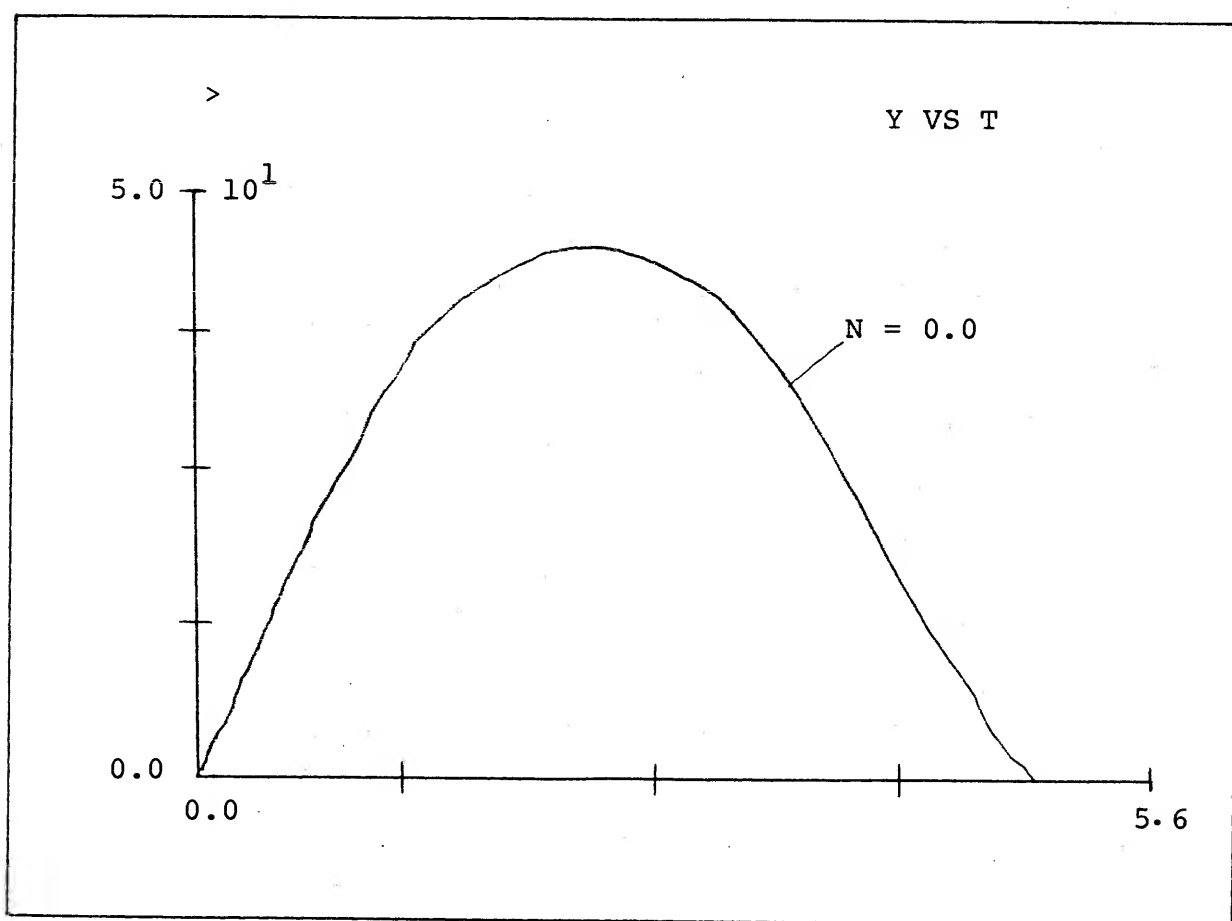
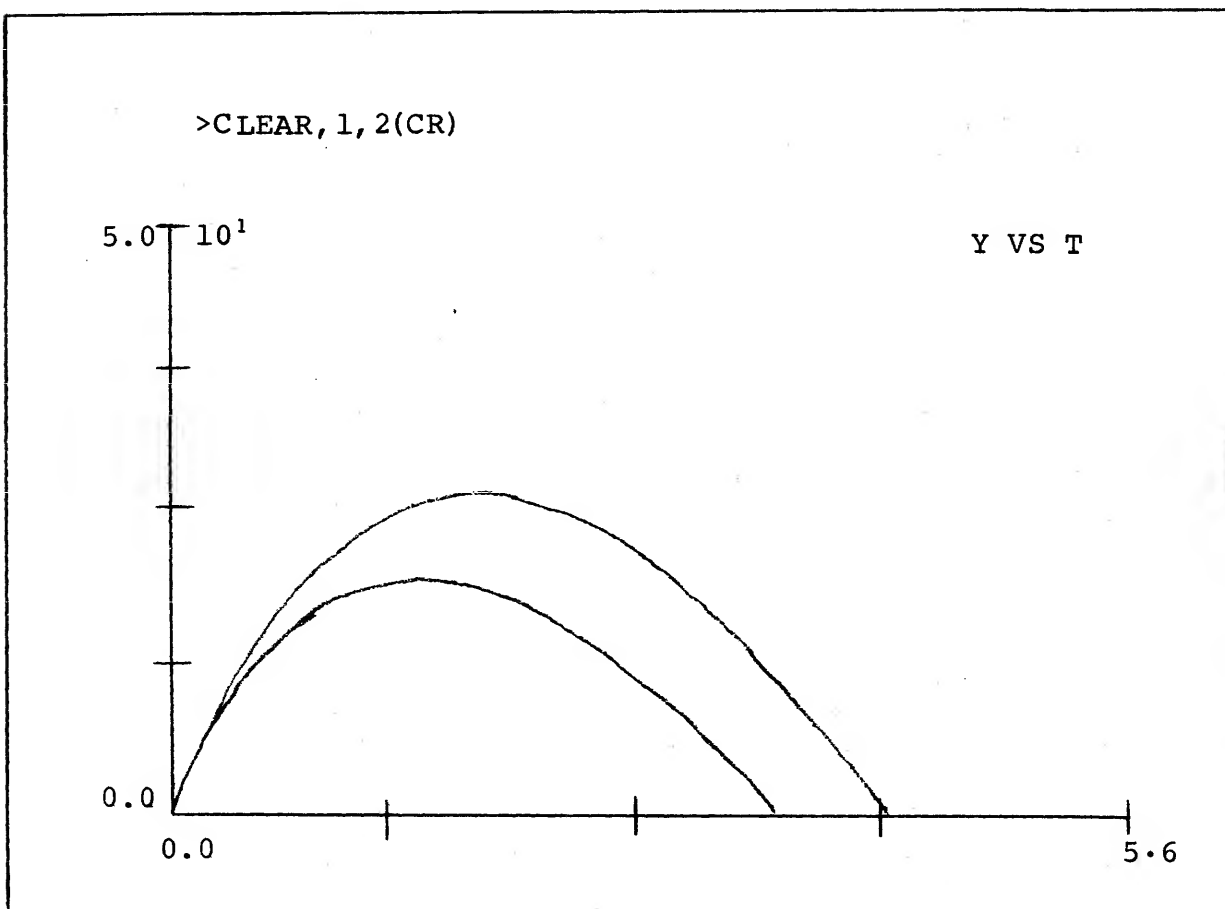

Figure 7. The curve labelling was accomplished using the (DEL) command. (See p. 48.)
Figure 8. This set of curves was generated by a CLEAR,1,2, using the functions of the previous example.
If the modifiers, r and m, are omitted then the values 0 and 1, respectively, are assumed, so that typing CLEAR(CR) and CLEAR,0,1(CR) are entirely equivalent. In the present example either of these forms would result in the curve and axis shown in Figure 7.
results are shown in Figure 8. Notice that there has been a screen erasure between Figures 7 and 8, so that the curve with  $N=0$  is no longer present. Since the erasure may or may not be pedagogically useful, an alternate command, called JUMP, can be employed.
The general form of the JUMP command is JUMP,r,m. Except for the fact that JUMP does not erase the screen it is identical to the CLEAR command, so that in the above example JUMP,1,2(CR) would simply result in a superposition of the displays shown in Figures 7 and 8.